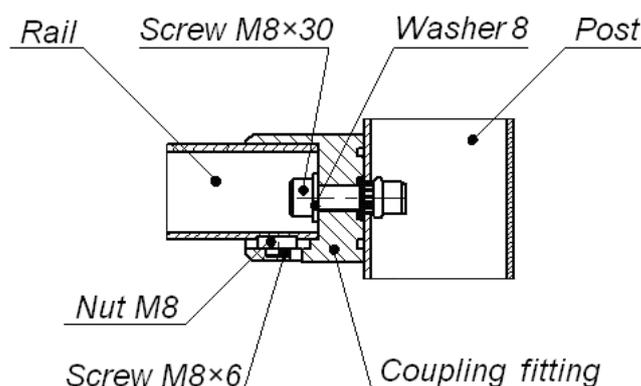
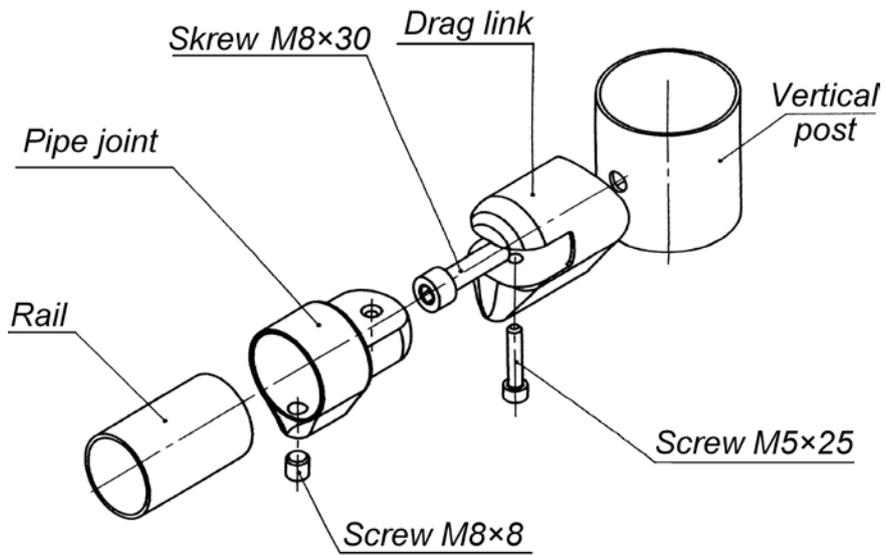

Figure 9 – Fastening of rails to posts using BH02 0-10 standard coupling fittings
Figure 10 – Fastening of rails to posts using BH02 0-11 adjustable coupling fittings
2. Fix two coupling fittings to the both railing posts with M8×30 screws (see Figure 9, Figure 10). Screws are included into coupling fitting delivery set.